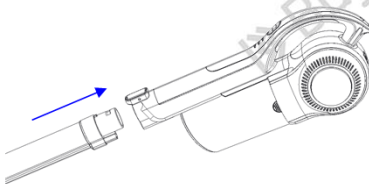

Fig. 1
- Insert the upper end of the tube (the one without the clip) into the air inlet of the main body following the guides of both parts. After hearing the click, this means the tube is safely installed in place (see fig. 1).